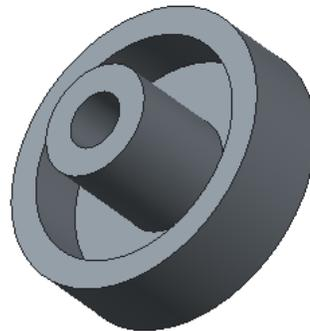

Figure 3-35 Revolve feature created
- Revolve the sketch, as shown in Figure 3-35.
5. Specify the angle for revolve as **360** in the edit box and press ENTER. Next, click anywhere in the empty area of the screen; the revolve feature is created, as shown in Figure 3-35.